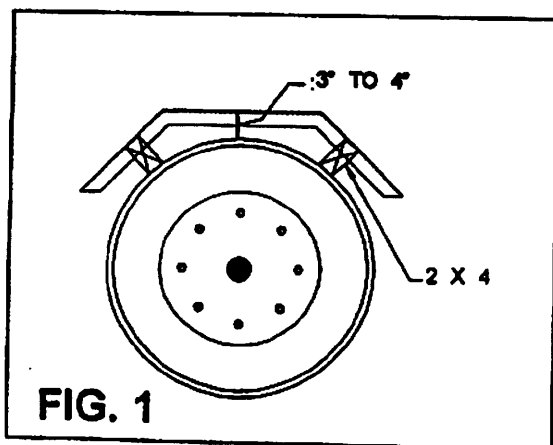
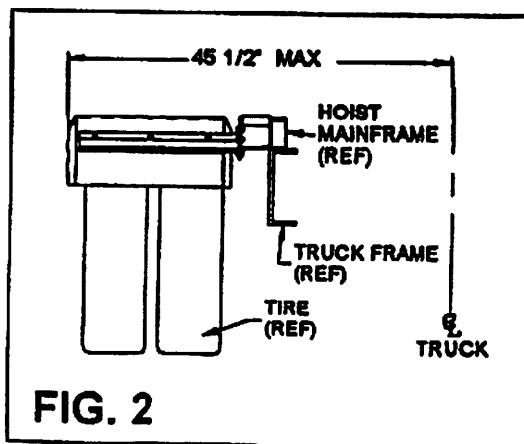
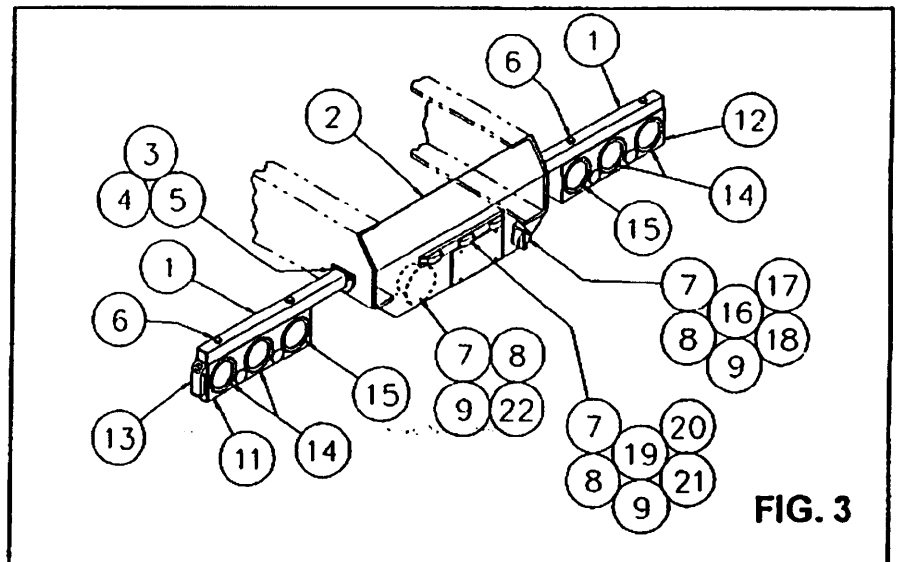

FIG. 1
FIG. 2
FIG. 3
(NOTE: toolbox has an envelope of 18"x18"x36". See Fig. 1 for hole dimensions.)
4. Mount toolbox brackets using fasteners provided (See Fig. 1).
7. Mount toolbox to brackets using fasteners provided (See Fig. 1).
2. Center fender above tire using block to maintain the proper height. Fender should be approximately 5" above tire to allow for suspension movement (See Fig. 1). A maximum width of 48" from center of the truck to the outside edge of the fender should be maintained (See Fig. 2).
2. Locate position for roller mount brackets [Part No. 32H03] between cross sills of the container. Rollers should be positioned as far back and as wide as possible for stability. For hoist and folding bumper clearance, do not place brackets any closer than 11" to the subframe longsill (See Fig.1). Also, the roller axle center line should be approximately 1-11/16" below the bottom of the subframe longsill for roller clearance (See Fig. 1).
3. Some modification to the roller mount bracket may be required for the roller mount to fit properly. If the existing container cross members are wider than 6", a fabricated support member of 1/2" plate or thicker will need to be added (See Fig. 2).
4. Once the mount brackets are located on the container, weld the roller mount brackets in place (See Fig. 1).
2. Center fender above tire using blocks to maintain the proper height. Fender height should be 3" to 4" above tire to allow for suspension movement (See Fig. 1). A maximum width of 45-1/2" from center of the truck to the outside edge of the fender should be maintained (See Fig. 2).
8. Weld guide gussets [Part No. 22H15] inside Z-channel of hoist mainframe (See Fig. 3), two guide gussets per fender mount weldment.
9. Attach fender bracket weldment [Part No. 10H50] to fender mount weldment [Part No. 11H51] using fasteners provided (See Fig. 3).
2. Position cab guard weldment [Part No. 50H95] on frame with sufficient clearance between cab and cab guard (See Fig. 1).
3. Determine location for mounting holes. Mounting holes should not be located within 2-3/8" of the truck frame edge (See Fig. 1). Drill 21/32" dia. mount holes through cab guard channels.
5. Attach cab guard weldment to truck frame using fasteners provided (See Fig. 2).
2. Trim truck frame to indicated dimensions (See Fig. 1). This step may have already been preformed if a bumper was previously installed.
3. Position center plate [Part No. 63H08] on the rear of the main frame. Weld center plate to truck frame (See Fig. 2 & Additional Notes).
4. Position stub light bar weldment [Part No. 51H69] on truck frame. Stub light bar weldment should be as high and as far back as possible on the truck frame to avoid interference with the bumper and fenders. It may be necessary to modify the stub light bar weldment to avoid interference. Drill mounting holes as required and mount using fasteners provided (See Fig. 3).
5. Attach the tail light module to the stub light bar weldments with the fasteners provided (See Fig 3).
6. Mount the identification light bar at top center of the center plate [Part No. 63H08] using the fasteners provided (See Fig. 3).
7. Mount license lamp right of the license plate (See Fig. 2) using the fasteners provided (See Fig. 3).
8. Mount junction box on the back left side of center plate (See Fig. 2), using the fasteners provided (See Fig. 3).